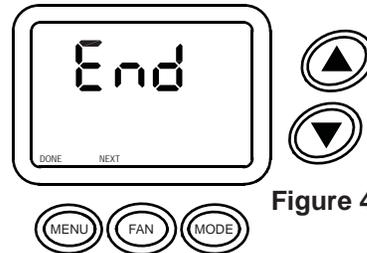

Figure 4
12. **END** will appear on the display when programming is completed (Figure 4).